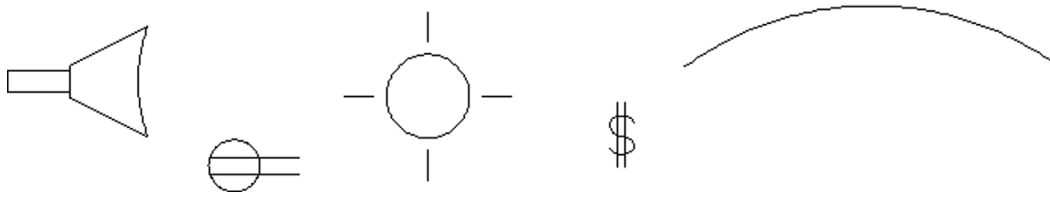

FIGURE 14.45 Various electrical symbols.
Step 1. You need the following layers (with suggested colors) for the electrical pieces. The pieces are monochrome in Figs. 14.45 and 14.46.
Step 2. Create the electrical symbols as shown in Fig. 14.45. Make sure the layers and colors are appropriate. Finally, make a block out of each symbol, so you can just copy and rotate them into position. With switches and outlets, there are numerous types (dimmer, three-way, duplex outlet, GFI, etc.), so this only scratches the surface.